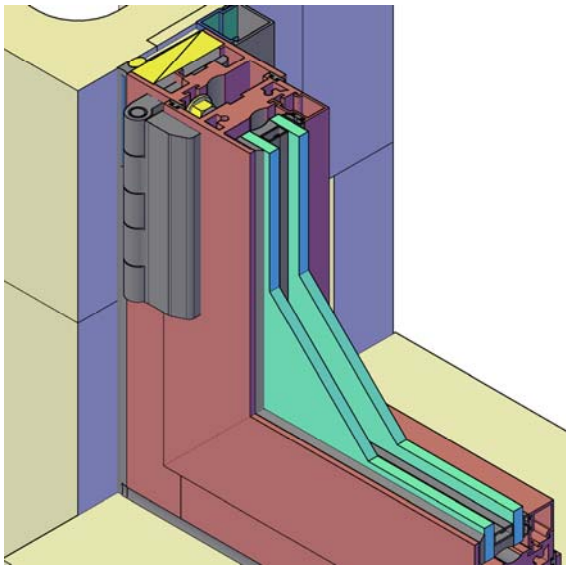
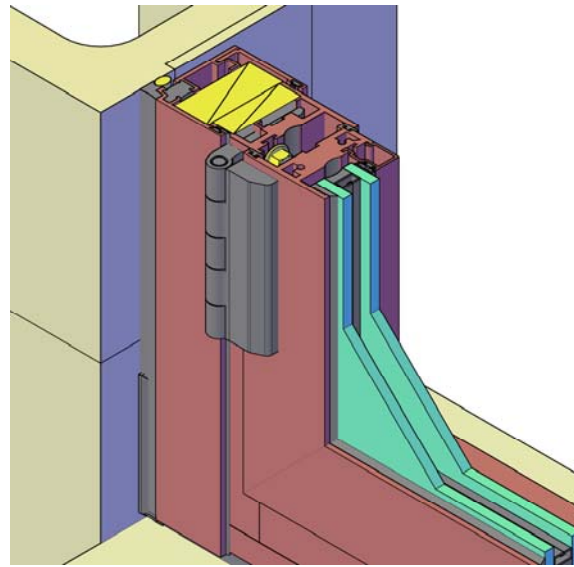

Fig. 2
Fig. 3
10) All casement windows must be securely anchored at jambs on hinged side. When butt hinges are used, anchor through each hinge. Do not bow or twist frames when anchoring. Use shims and / or blocking as necessary to keep jamb free of deformation from anchor fasteners. Pressure treated lumber is corrosive to aluminum and should not be used for this blocking. Any fastener which comes in direct contact with pressure treated lumber must be either Stainless Steel or otherwise be coated to resist corrosion as a result. (See Fig. 2 and Fig. 3)